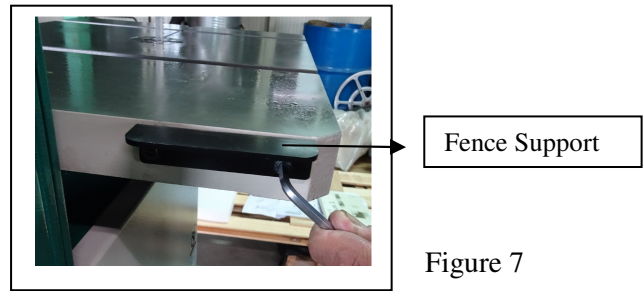

Figure 7
1. Install fence support. Use (1)M6 flat washer and (2) M6 hex socket bolt.(see Figure 7)